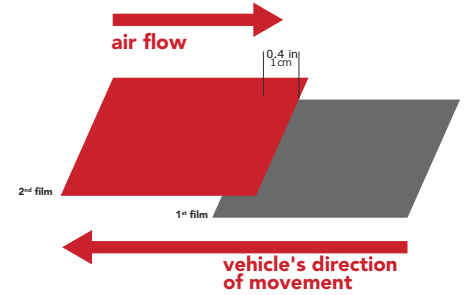

Figure 20
- › Vertical overlapping of the SKINTAC HX45000 film on a mobile surface: Assuming that you always apply the film starting from the rear of the vehicle and working forward, then the overlapping will be done in the same way. (FIG. 20)